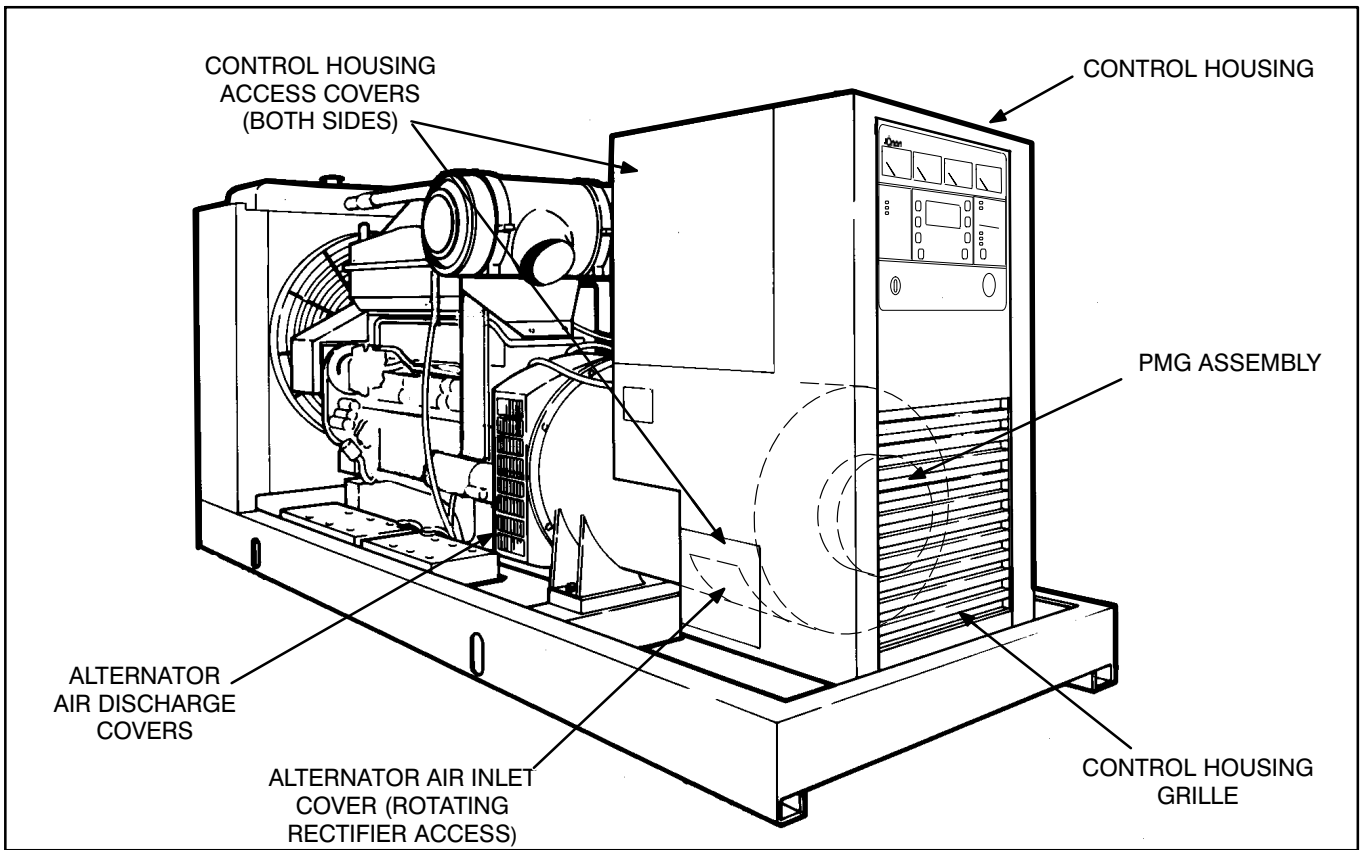
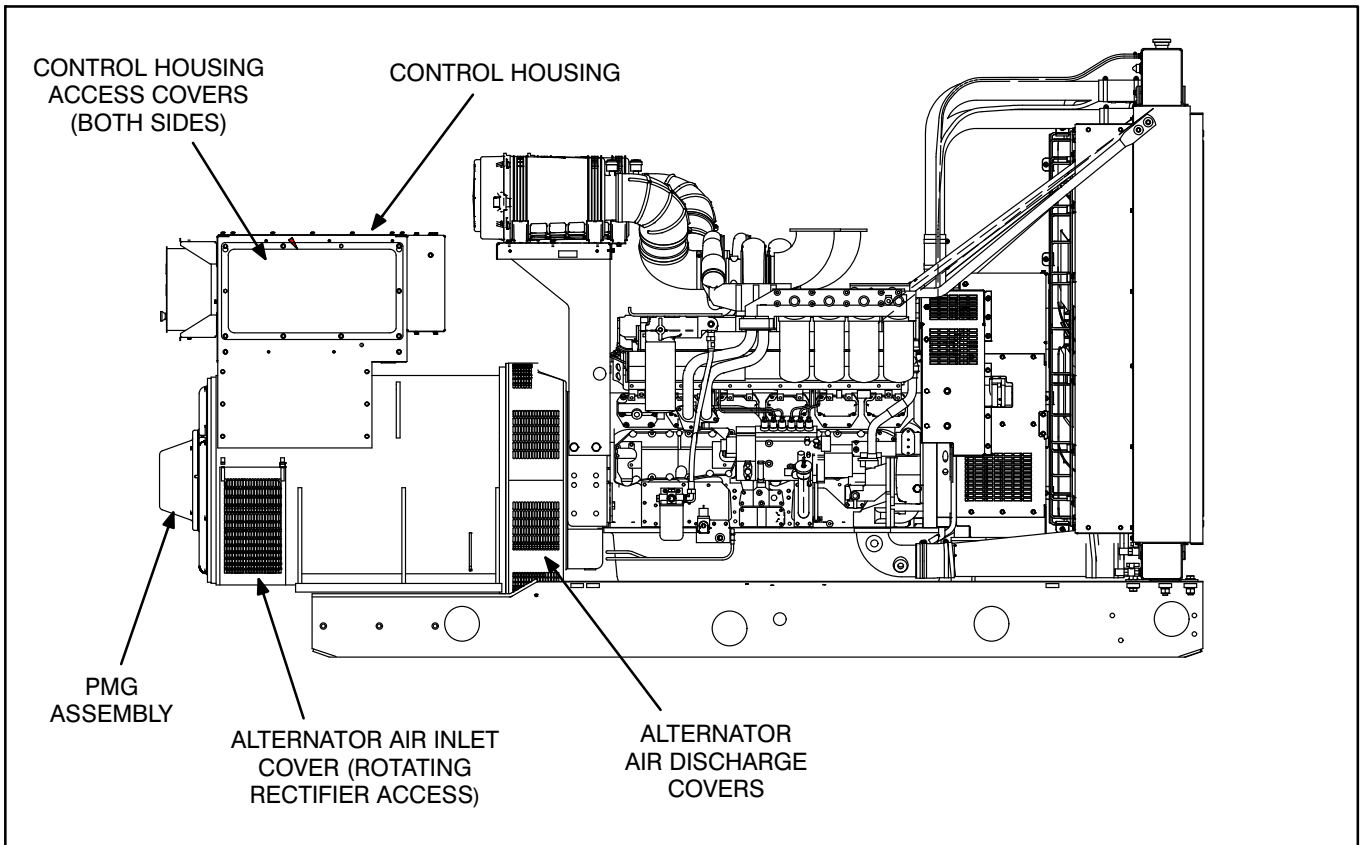

FIGURE 6-7. HC6 ALTERNATOR AND CONTROL HOUSING ASSEMBLY
FIGURE 6-8. P7 ALTERNATOR AND CONTROL HOUSING ASSEMBLY
Two types of alternators (P7 or HC6) are used with these generator set models. The major difference between these two alternators is the lifting eye locations on the alternator and the type of control housing. The control housing for the HC6 alternator is shown in Figure 6-7 and the control housing for the P7 alternator is shown in Figure 6-8. In the following procedures, if the step only applies to a particular control housing or alternator, it will be noted at the beginning of the step (e.g., *HC6 control housing*, *P7 alternator*, etc.)
2. *HC6 Control Housing:* Remove the control housing grille and access covers (see Figure 6-7).
5. *HC6 Control Housing:* Install the control housing grille and access covers (see Figure 6-7).
2. Remove the air inlet and discharge panels and access covers from control housing and alternator (see Figure 6-7 or 6-8).